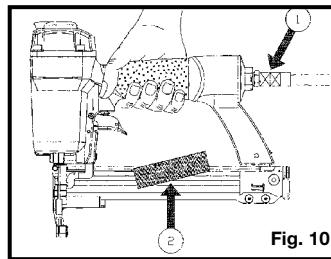

Fig. 10
- Connect tool to air supply before** loading fasteners, to prevent a fastener from being fired during connection. The tool driving mechanism may cycle when tool is connected to the air supply. (Fig. 10)